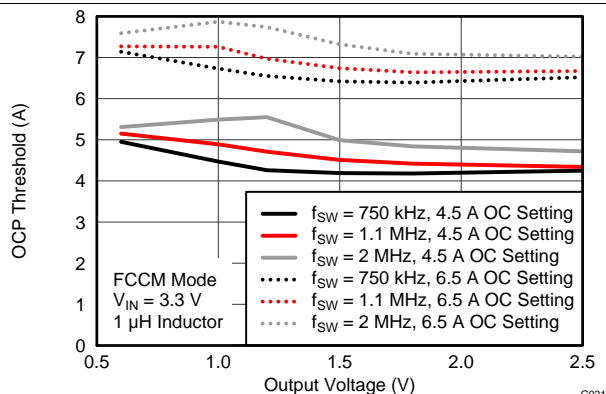

Figure 5. OCP Threshold vs Output Voltage
(1) Ensured by design. Not production tested.
(2) See Figure 5 and Figure 6 on OCP level for other operating conditions.